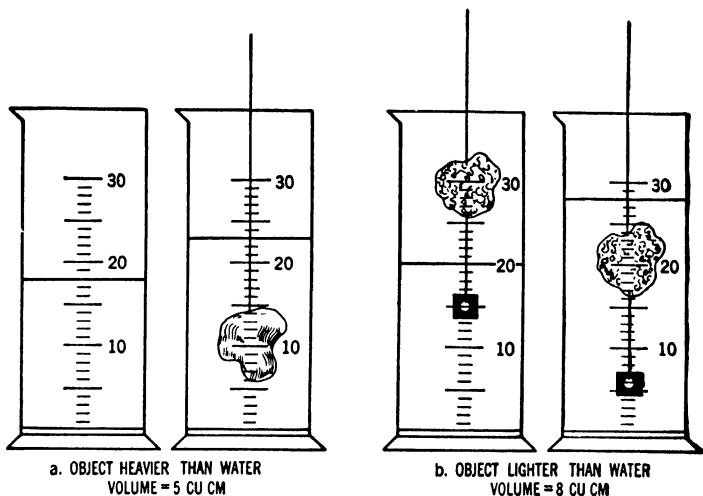

Fig. 5.1. Finding the volume of an irregular solid.
1. If the body is insoluble in a given liquid it may be immersed in that liquid in a graduate which is calibrated either in cubic centimeters or in cubic inches. The liquid level is read before and after the body is immersed. The difference between the two readings is equal to the volume of the object. Water is the liquid generally used. (See Fig. 5.1.)